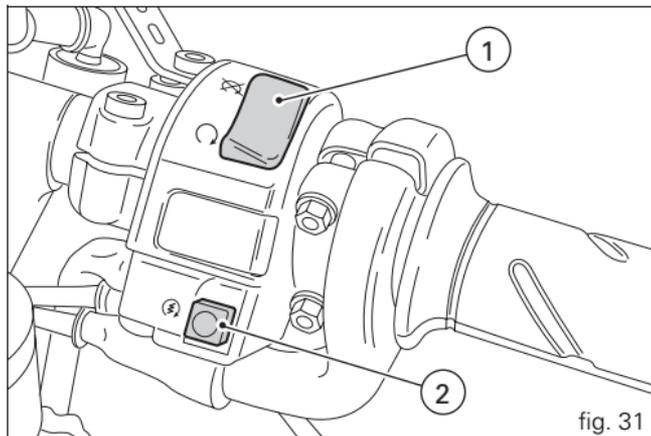

fig. 31
- 2) Make sure that the stop switch (1, fig. 31) is in the  RUN position, then press the starter button (2, fig. 31).